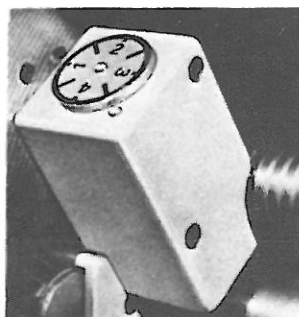

Fig. 12
**Threading dial indicator – English:** To cut threads of even number per inch, close the leadscrew nut at any line on the dial; to cut threads of odd number per inch, close the leadscrew nut at any numbered line. Ensure that the appropriate dial line coincides exactly with the fixed point on each pass, see Fig. 12.